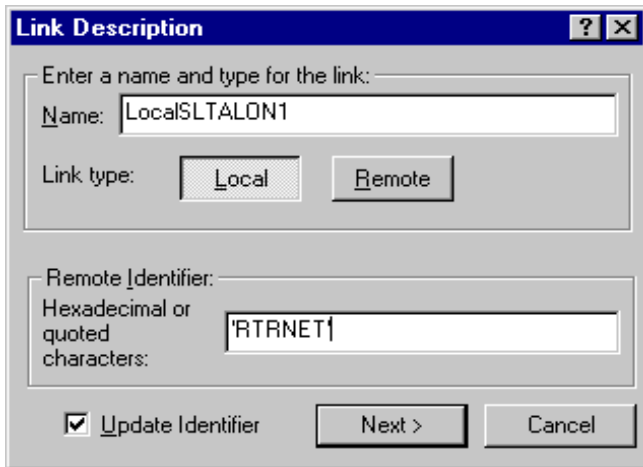

FIGURE 4-17. SLTA LOCAL SETUP
- b. Click on the Link menu and select **New**. The Link Description dialog box is displayed (see Figure 4-17).